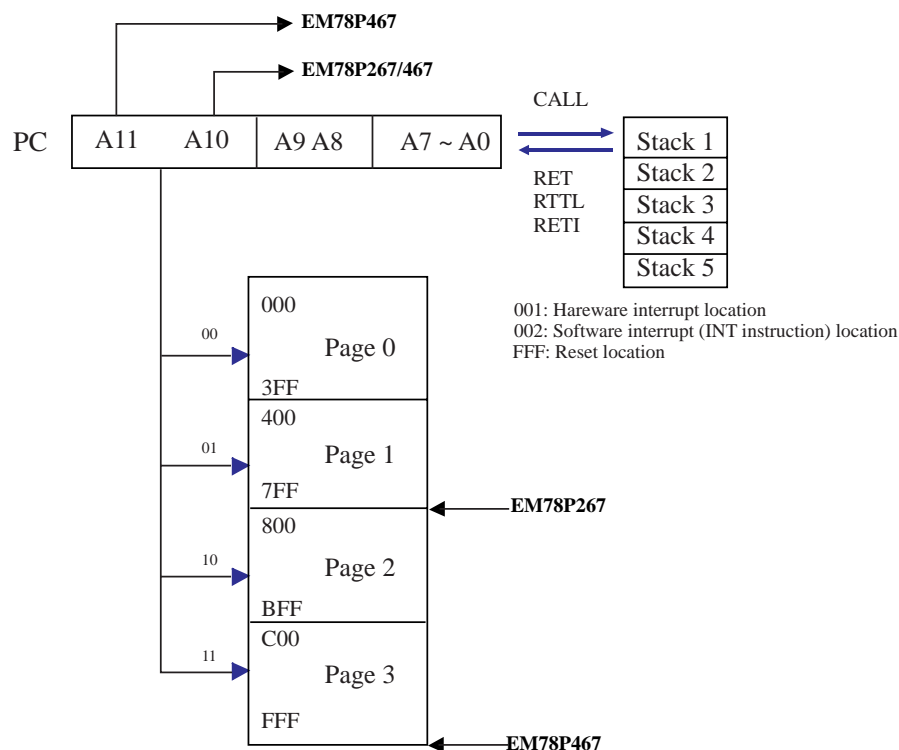

Fig. 3 Program counter organization
- Depending on the device type, R2 and hardware stack are 12 bits wide. The structure is depicted in Fig. 3.